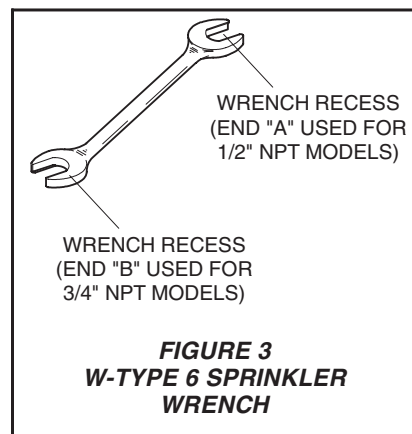

FIGURE 3
Step 2. Tighten the sprinkler into the sprinkler fitting using only the W-Type 6 Sprinkler Wrench (Ref. Figure 3). With reference to Figure 1 or 2, the W-Type 6 Sprinkler Wrench is to be applied to the wrench flats.
Step 4. Tighten the sprinkler into the sprinkler fitting using only the W-Type 6 Sprinkler Wrench (Ref. Figure 3). With reference to Figure 1 or 2, the W-Type 6 Sprinkler Wrench is to be applied to the wrench flats.